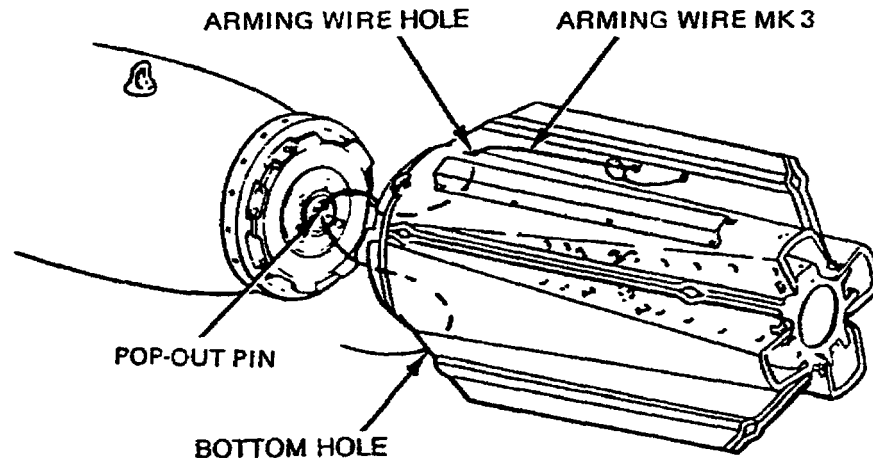

Figure 4-11D. Bomb Fin MAU-91A/B Arming Wire Rigging
- a. Loop arming wire through holes in fin blade (Figure 4-11D).
- g. Pass free end of Arming Wire Mk 3 through pop-out pin in TDD (Figure 4-11D); then pass it through small hole in bottom of fin. Remove slack by pulling on wire at bottom of fin, ensuring that wire is not kinked or jammed.
- t. With Arming Wire Mk 3 secured to fin blade (Figure 4-11D), ensure arming wire is not kinked or jammed by pulling alternately on top and bottom portion of wire.